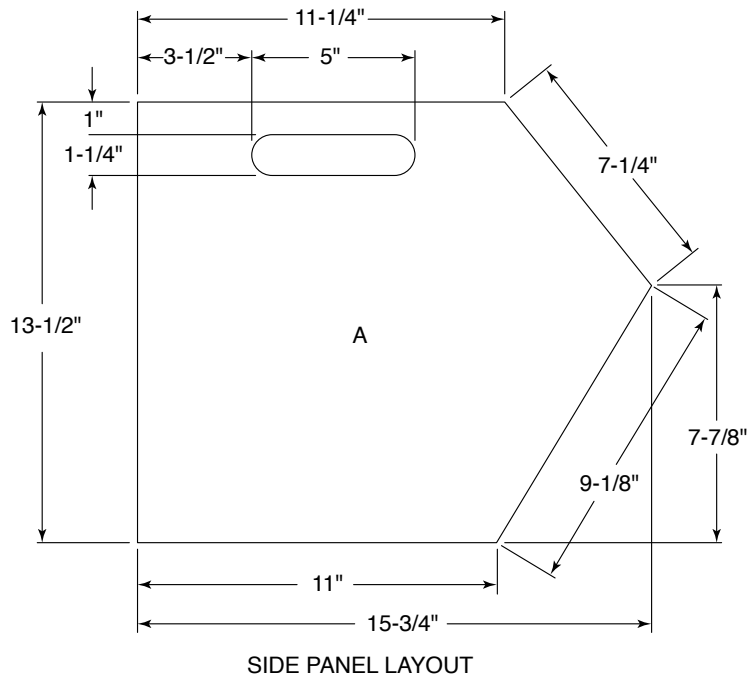

FIG 4. TO PRECISELY CUT THE END PANEL ANGLES ON A MITER SAW, COPY THEM FROM THE LAYOUT WITH A BEVEL GAUGE AND THEN USE THE GAUGE TO SET THE SAW ANGLE.
6. To make these angle cuts on a miter saw, copy the top angle with a bevel gauge. Transfer that angle to the miter saw by putting the gauge against the fence and adjusting the swing of the saw until the blade is parallel with the gauge. See Fig. 4. To save a little time and ensure identical cuts, stack the two sides together and cut them both at the same time. Repeat this procedure to cut the bottom angle.
13. To cut the solid wood edge pieces, F, G AND H, to their respective lengths and angles, start by determining the angles where F and G meet and where G and H meet. These wide angles have to be bisected in order for the angle cuts to meet perfectly. The method for this is shown in Fig. 6. You can do the layout work right on the panel, drawing lines lightly in pencil so they'll be easy to sand away later. Copy each bisected angle with the bevel gauge and use it to set up the miter saw as you did in Step. 6, shown in Fig. 4. Make test cuts first to make sure the sticks meet just right. When you are pleased with the fit, make the cuts on the actual workpieces.